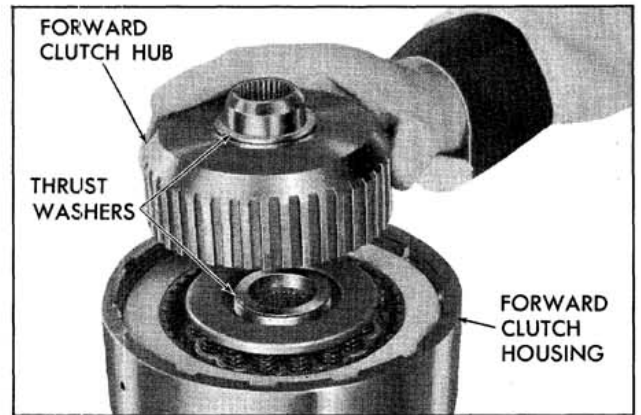

Fig. 6-127 Removing Forward Clutch
3. Remove the forward clutch hub and thrust washers. (Fig. 6-127)